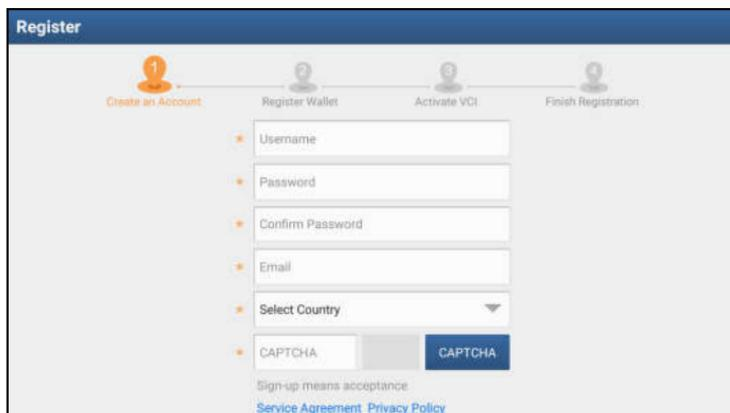

Fig. 4-3
A. If you are a new user, tap “New Registration” to enter sign-up page. See Fig. 4-3.